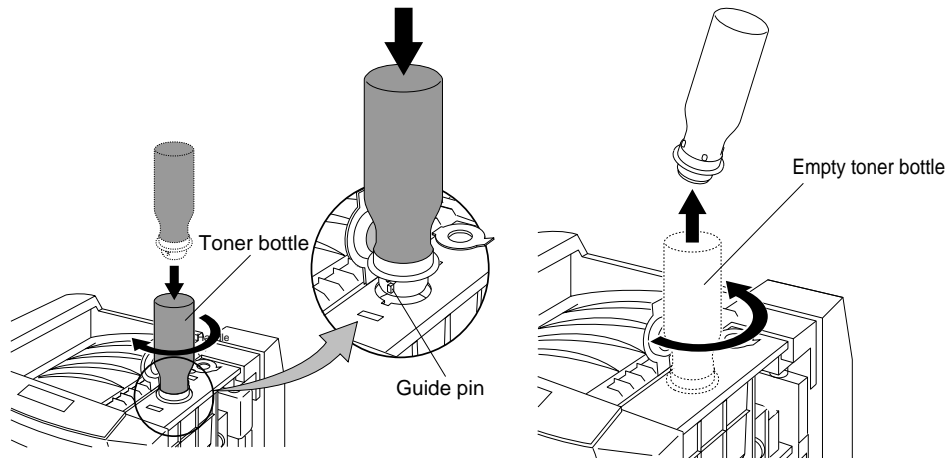

Figure 4-3 Filling the toner and removing the Toner Bottle
7. Line up the guide pins on the bottle with the guide pin openings on the toner fill opening. Insert and turn the toner bottle clockwise 180° to start filling, as shown in Figure 4-3.
8. When empty, turn the toner bottle counterclockwise 180° and remove, as shown in Figure 4-3.